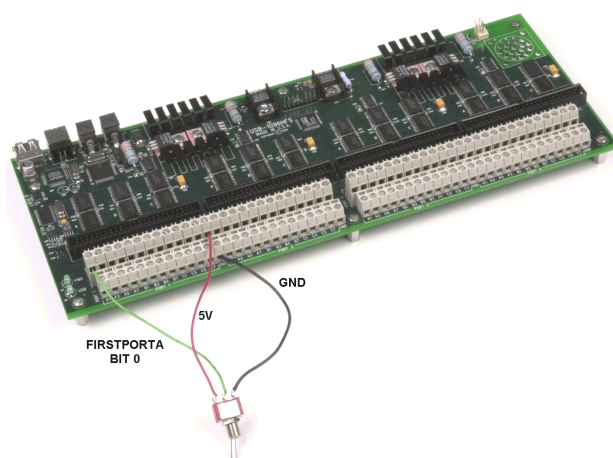

Figure 3-2. Digital connection of FIRSTPORTA Bit 0 detecting the state of a switch
When configured for input, you can use the USB-DIO96H digital I/O terminals to detect the state of any TTL level input. Figure 3-2 shows the USB-DIO96H wired to detect the state of a switch. When you set the switch to the **+5 V** position, FIRSTPORTA Bit 0 reads *TRUE* (1). When you move the switch to the **GND** position, FIRSTPORTA Bit 0 reads *FALSE* (0).